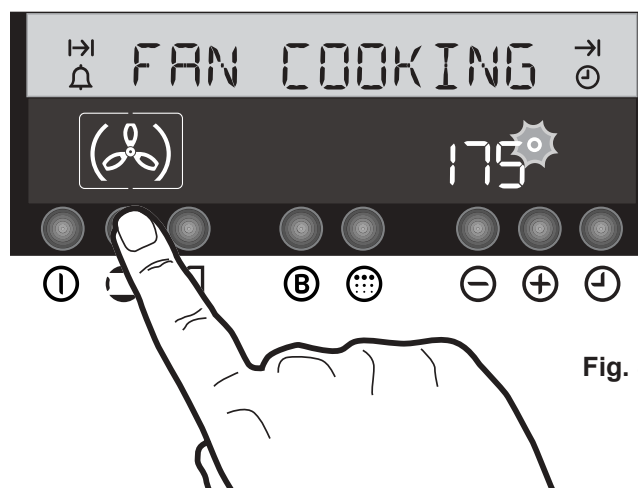

Fig. 8
2. Press the "Cooking Functions" button  to select the required oven function. Each time button  is pressed, a different cooking symbol appears in the lower section of the display and the description of the cooking function appears as a message in the upper section. The pre-set temperature for each function is shown in the lower section, and symbol "●" flashes on the right hand (Fig. 8).